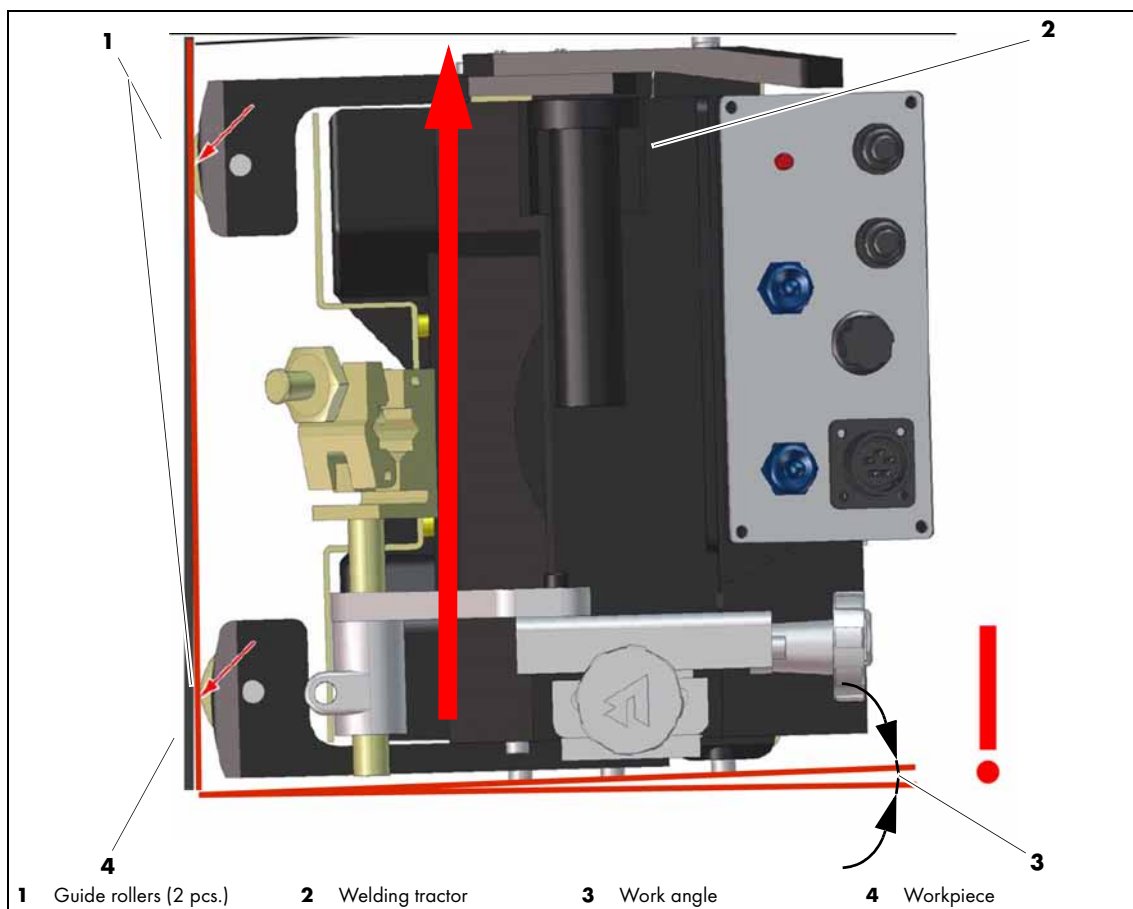

Fig. 17 Setting of forced guidance in relation to the direction of movement*
- Observe the work angle, Fig. 17 on page EN-25.
* Fig. 17 is illustrative. ABI-CAR E-1200 is shown. Discrepancies are possible.
⇒ Fig. 17 on page EN-25